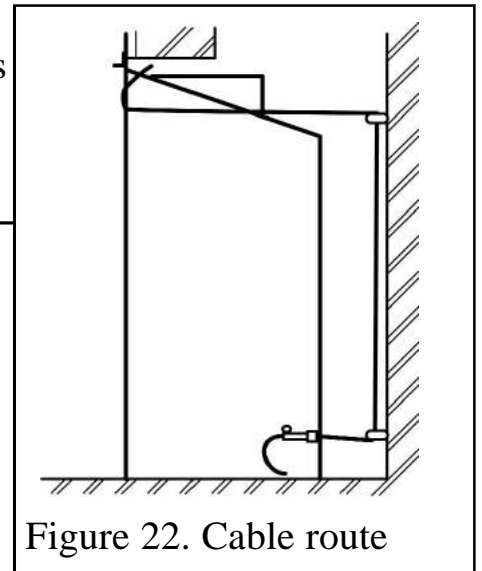

Figure 22. Cable route
6. Thread the cables through the eyebolts. Return the cables through the holes near the bottom of the convection box back panel (See figure 22) **(For precast or clay block flue systems return the cables through the slotted holes in the side of the convection box).**